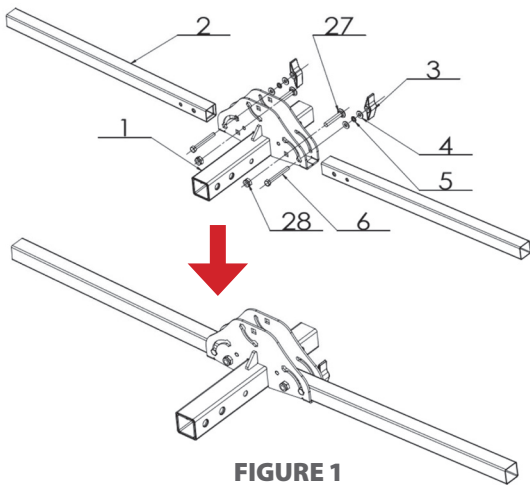

FIGURE 1
Assemble the primary frame by connecting the Short Support Base Assembly (part #1) and (2) Horizontal Arms (part #2), using (2) 5/16" knob, (4) 5/16" flat washer, (2) 5/16" spring washer, (2) 5/16" hexagon bolt, (2) M10 Carriage bolts and (2) M10 Locknuts (parts #3, #4, #5, #6, #27 and #28). (See **Figure 1**)